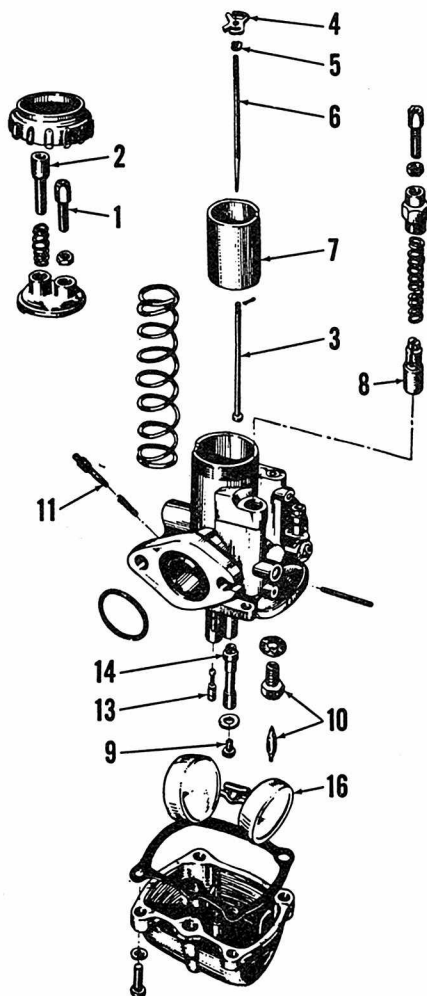
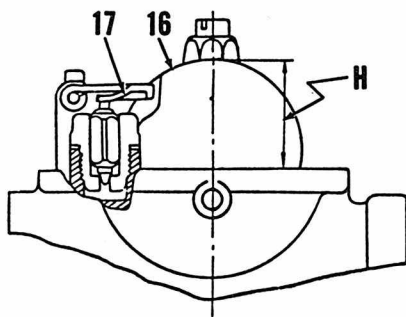

Fig. S3-1—Exploded view of Mikuni VM carburetor used.
Fig. S3-2—Float level (H) is adjusted by bending tang (17). Make certain that both floats are the same.
**CARBURETOR.** Mikuni VM20SH carburetor used is shown in Fig. S3-1. The idle mixture is adjusted at needle (11). Initial setting should be 1½ turns open. Idle speed is adjusted at adjuster (2). The float setting (H—Fig. S3-2) should be 0.984 inch. Refer to Fig. S3-1 and the following for standard jet sizes and specifications: